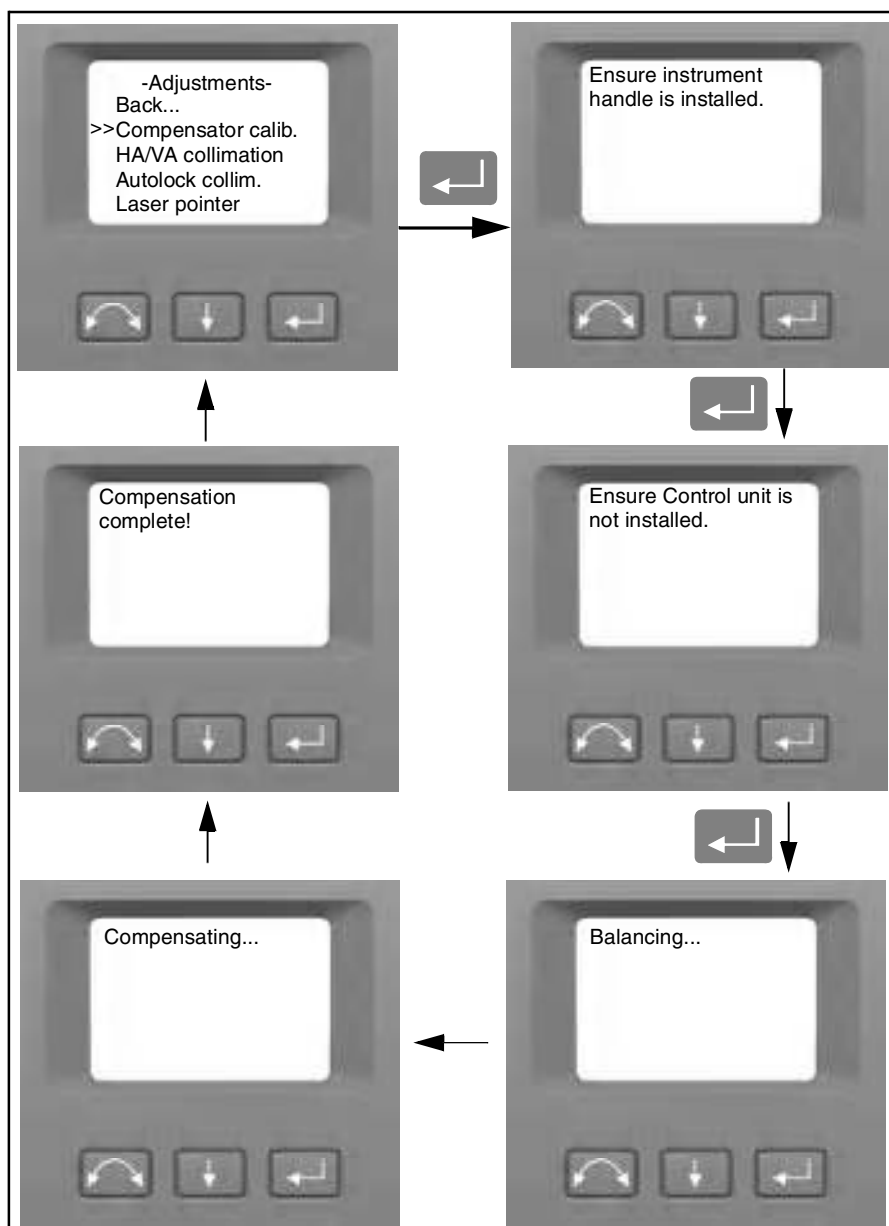

Figure 4.29 Compensator calibration routine
3. Follow the instructions in the display. figure 4.29.